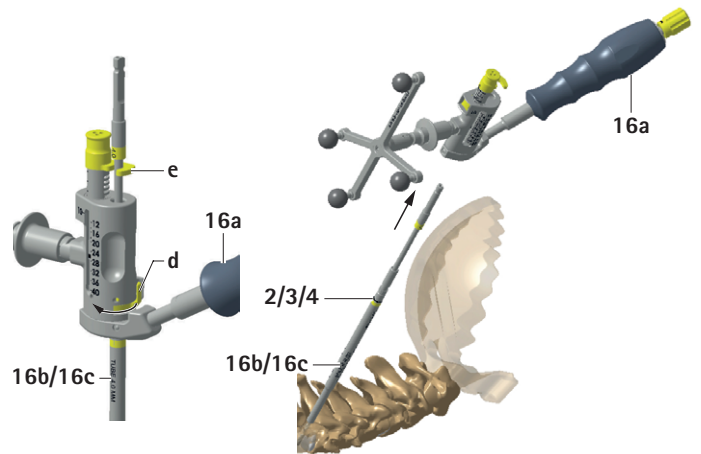

Fig. 4
- Slide the golden lever arm d at the distal end of the drill guide body in a clockwise direction, as shown on the left side of the image, see Fig. 4